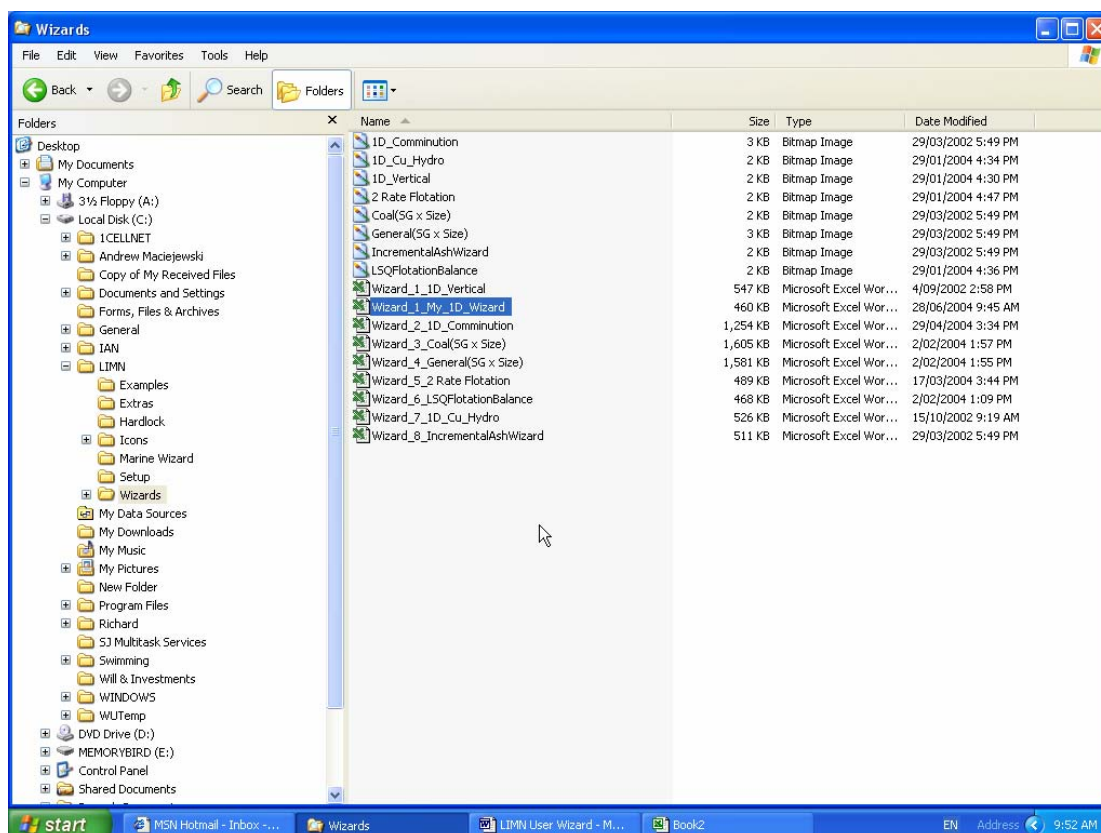

Figure 8: LIMN folder
4.3 Click on the Stream\_Data(Input) sheet. Enter the formula into the derived cells as per figure 8 below.